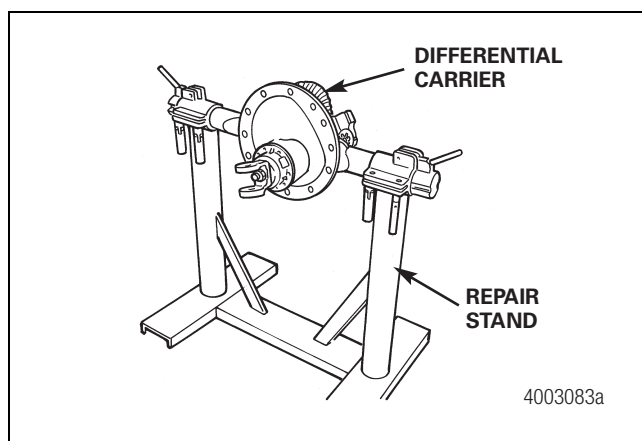

Figure 4.2
12. Use a lifting device to place the carrier into a repair stand. Figure 4.2.